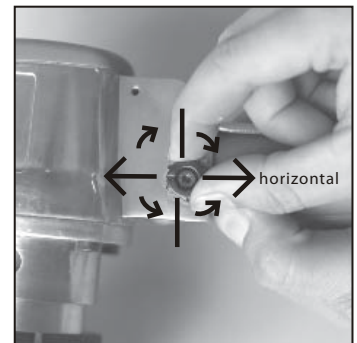

Figure 6
**NOTE:** The tool speed can be adjusted by turning the air regulator knob (#13) either clockwise or counterclockwise. The maximum tool speed can be obtained when the line on the knob is perpendicular to the tool handle (See figure 6)